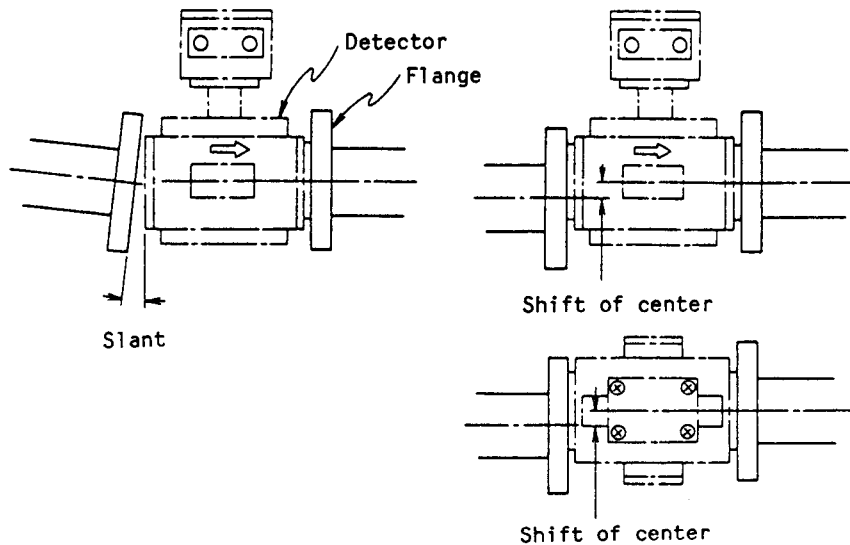

Figure 5-7. Check of Piping
- o Check that piping has not slant or shift of center. (Refer to Figure 5-7)